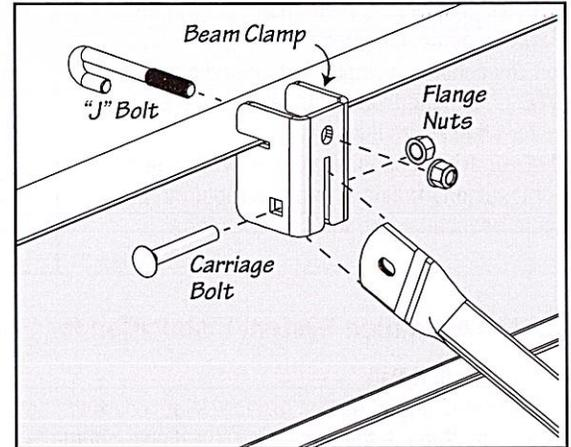

Fig. 4-2
- Slide the beam clamp over the "J" bolt end passing through the top of the beam clamp and slide the clamp over the I-beam frame as shown in Fig. 4-2.
- Align/insert the lateral strut end in the mounting slot on the bottom of the beam clamp as shown in Fig. 4-2.